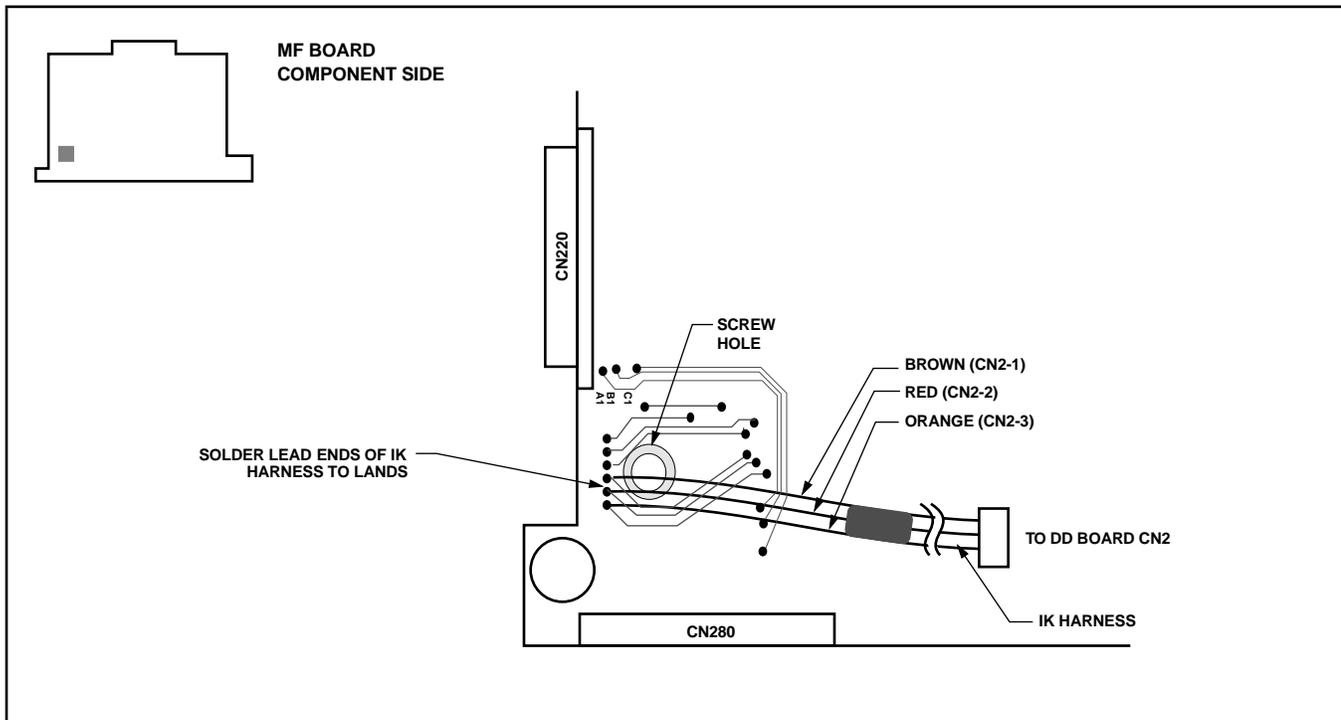

Figure 2
1. Install new IK harness connecting MF board and DD board as follows and as shown in Figure 2: